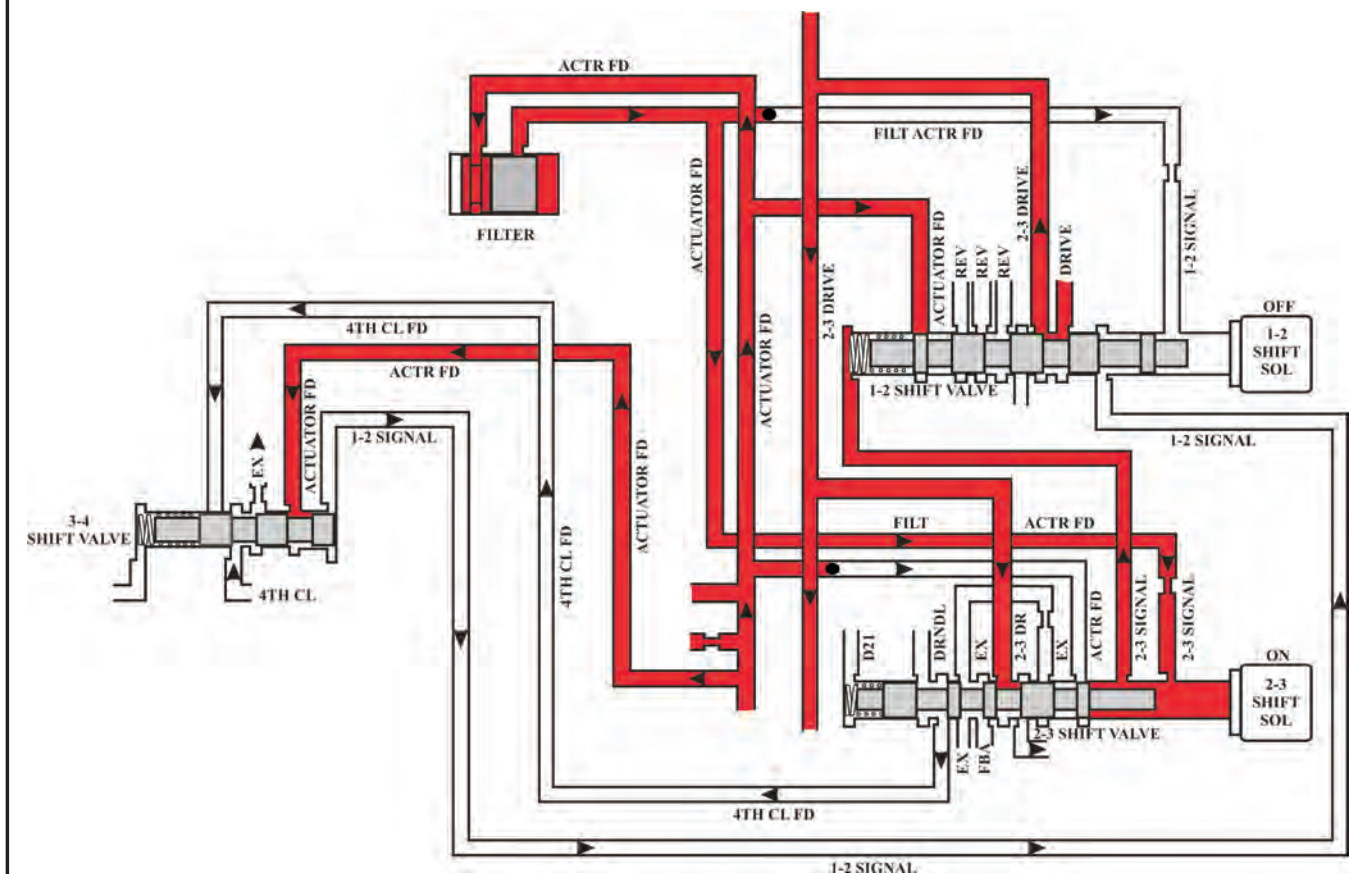

Figure 126
- Make certain solenoid o-rings fit properly and shift valves are free and valve springs are good, Refer to Figure 126.